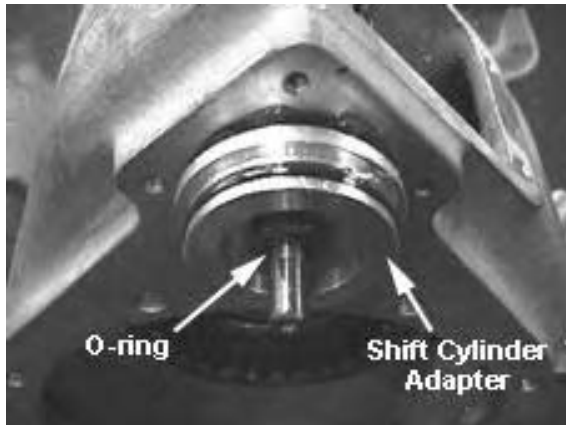

Fig. 78
36. Install the shift cylinder adapter into the case. See Fig. 78.